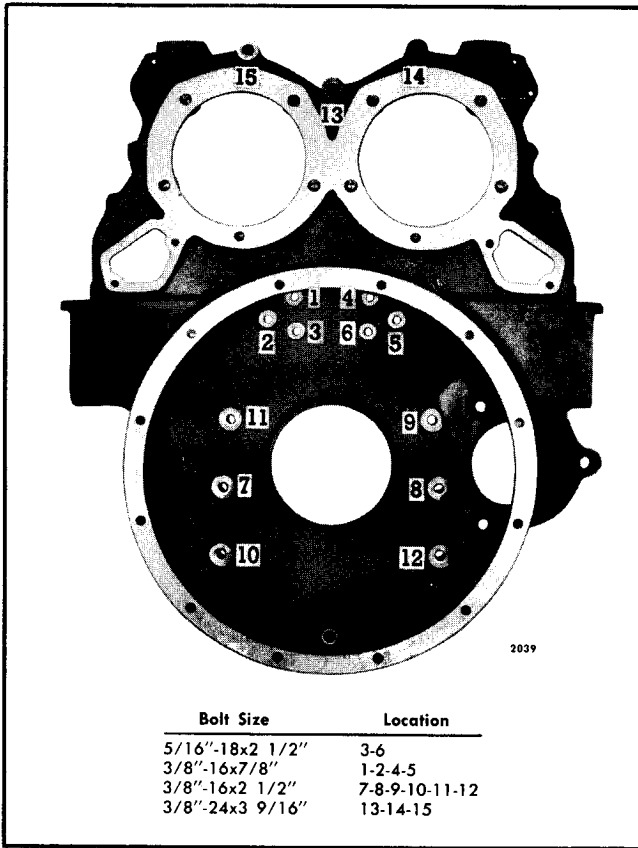
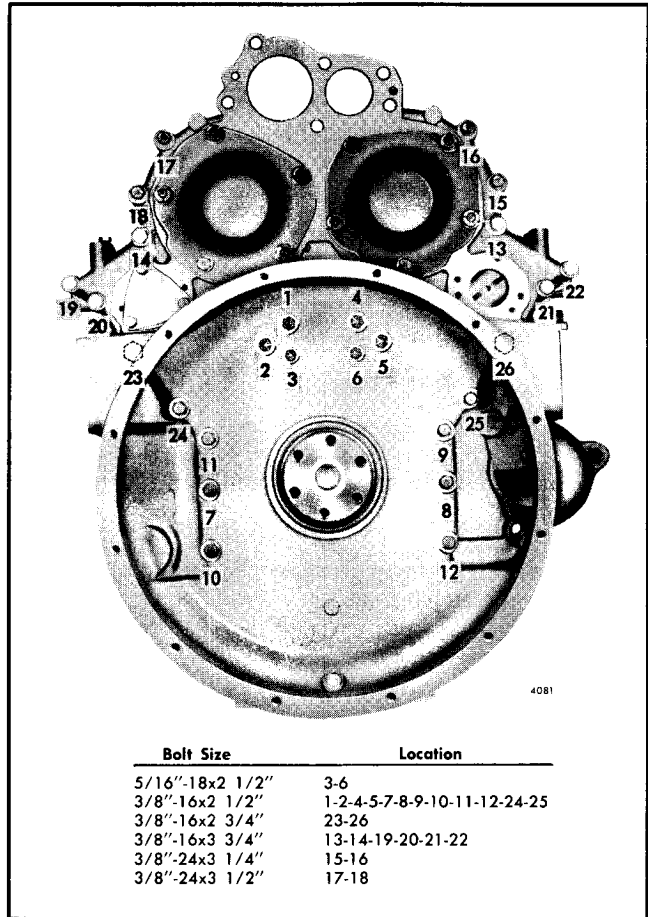

Fig. 3 - Flywheel Housing Bolt Sizes and Tightening Sequence (Operation 1)--In-Line Engine
Fig. 4 - Flywheel Housing Bolt Sizes and Tightening Sequence (Operation 1)--6V Engine
NOTE: If the engine is equipped with a clutch housing, do not install the six bolts numbered 7 through 12 (Fig. 3) until the clutch housing is installed.
8. On an In-line right-hand rotation engine, start at No. 1 (No. 4 on left-hand rotation engine) and draw the bolts up snug in the sequence shown in Fig. 3. On V engines, start at No. 4 on a right-hand rotation engine (No. 1 on a left-hand rotation engine) and draw the bolts up snug in the sequence shown in Figs. 4 and 5.
NOTE: Prior to Engine Serial Numbers 2D-903, 3D-011 and 4D-103, the bolts numbered 7 through 12 in Fig. 3 were all 5/16"-18 bolts and must be tightened to 19-23 lb-ft (26-31 Nm) torque.